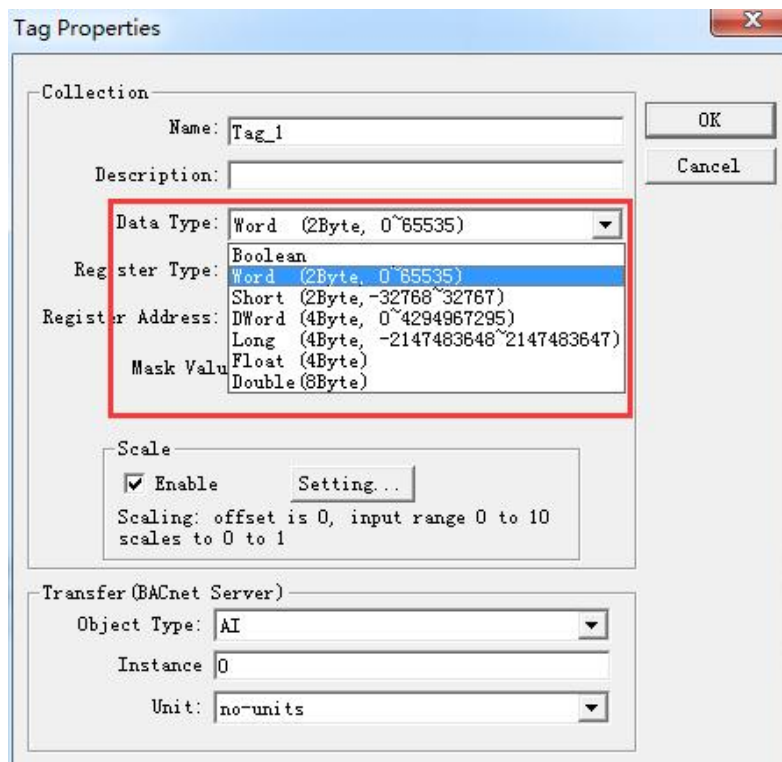

Figure 2-4-5 Date Type
Click the menu **Edit** and select the **New Tag...** or click the button  **New Tag** in the toolbar. In the popup diag “**Tag Properties**”, set the **Collection** and **Transfer(BACnet Server)** parameters, as the following Figure 2-4-5 shows.
- **Date Type:** Boolean\Word\Short\Dword\Long\Float and Double ,as the following Figure 2-4-5 shows.